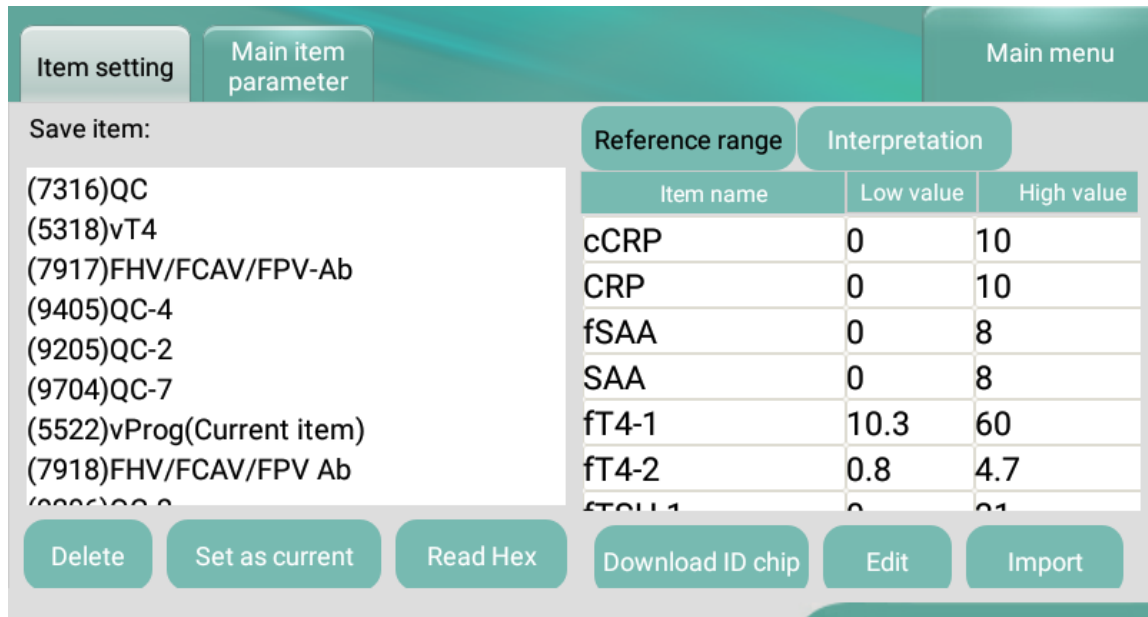

Figure 4.5.1
1. As shown in Figure 4.5.1, saved test lists can be viewed and reference ranges can be set in the [Item] screen.